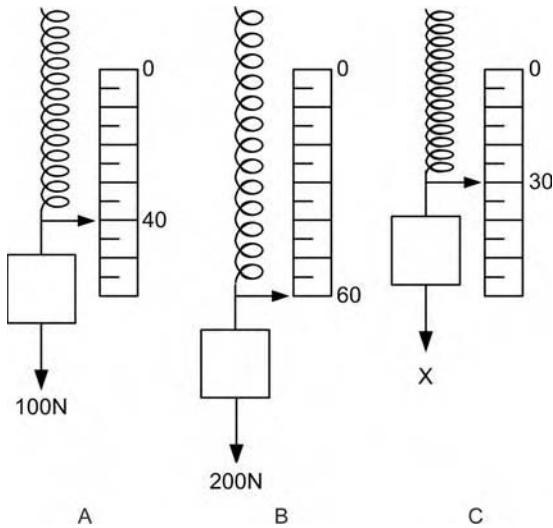

Figure 4.140 Spring with pointer attached.
23. With reference to Figure 4.140. What is the weight of X? [A, B1, B2]